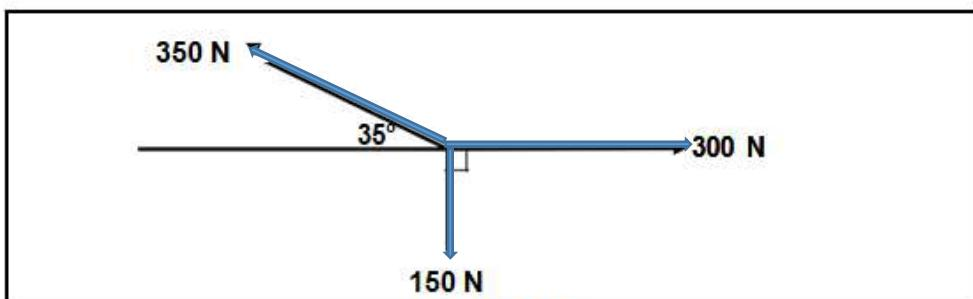

FIGURE 6.2
6.3 FIGURE 6.2 below shows a system of forces with three coplanar forces acting on the same point. Use calculations and determine the magnitude and direction of the resultant force of this system of forces.
(Draw and complete the diagram in FIGURE 6.2. Show ALL the horizontal and vertical components before you do the calculations.)